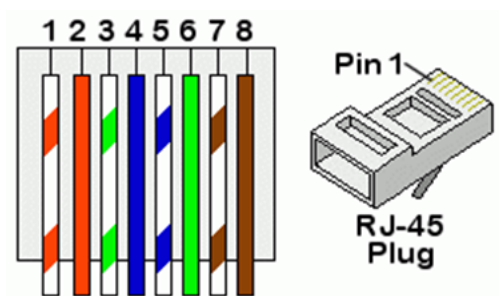

Figure 10 – RJ-45 connection pinout
- 2) For clarity, the RJ-45 connector pinout is shown in Figure 10.